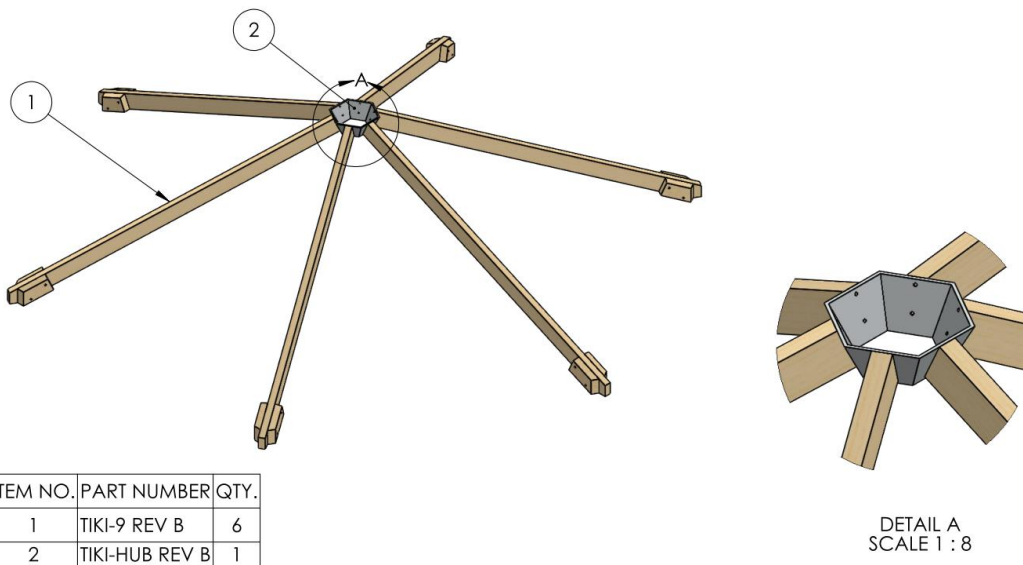

Figure 10
11) Connect all rafters (Tiki-9) to the center hanger using two 4" screws(Bag #5) to each rafter as shown in Figure 10. Make sure rafter is correctly orientated as shown in Figure 10. Align the top of the rafter with the top of the aluminum hanger. Predrill all screws with 1/8" bit.